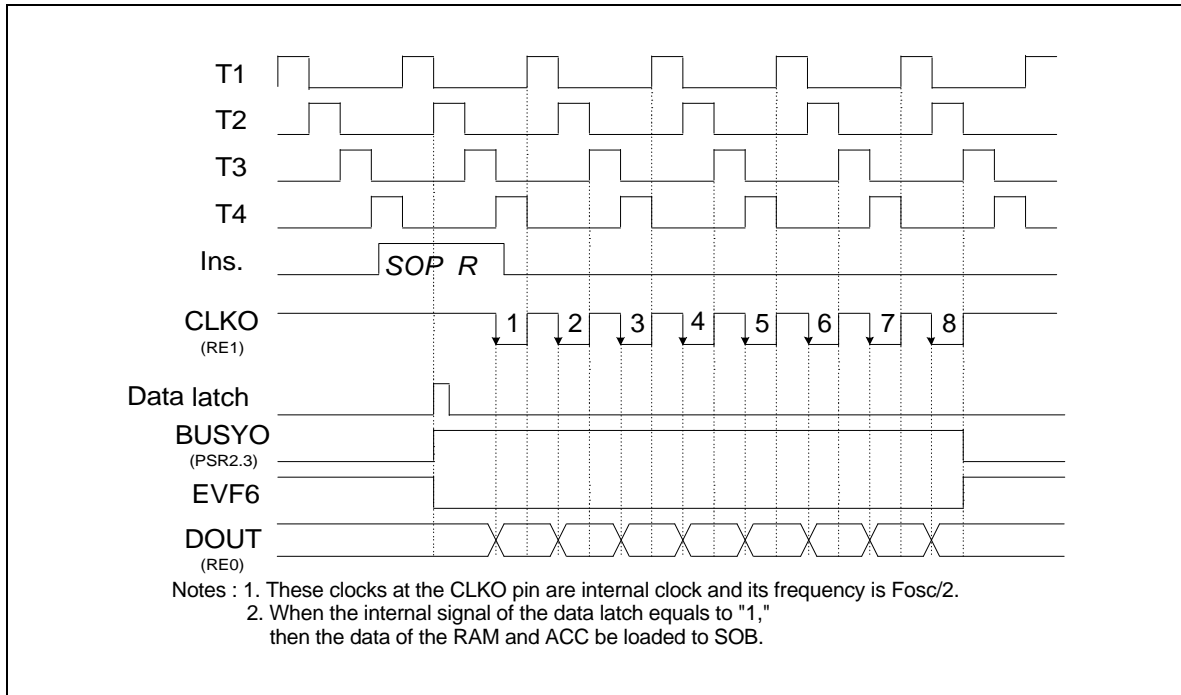

Figure 12. Timing of the Serial Output Function (SOP R)
(2) When the SOP R instruction is executed, the data will be loaded to the serial output buffer (SOB) and bit 3 of port status register 2 will be set to "1" ( $BUSY_O = 1$ ). Then the CLKO pin will send out 8 clocks and the data in SOB will be sent out at the falling edge of the CLKO pin. After the 8 clocks have been sent,  $BUSY_O$  will be reset to "0" and EVF.6 will be set to "1." At this time, if IEF.6 has been set ( $IEF.6 = 1$ ), an interrupt is executed; if HEF.6 has been set ( $HEF.6 = 1$ ), the hold state is terminated. Users can check the status of PSR2.3 ( $BUSY_O$ ) to know whether the serial output process is completed or not. If a serial output process is not completed, and the SOP R instruction is executed again, the data will be lost. The timing is shown in Figure 12.